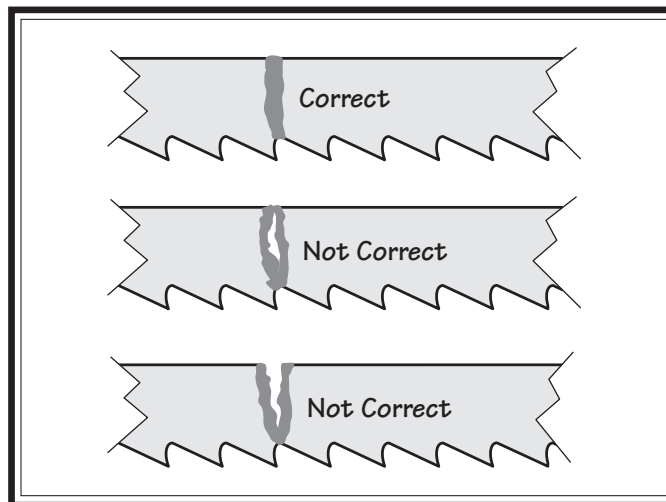

Figure 34. Blade welded joint examples.
11. Inspect the weld. The welded joint should be even across the width of the blade with no gaps (see **Figure 34**).